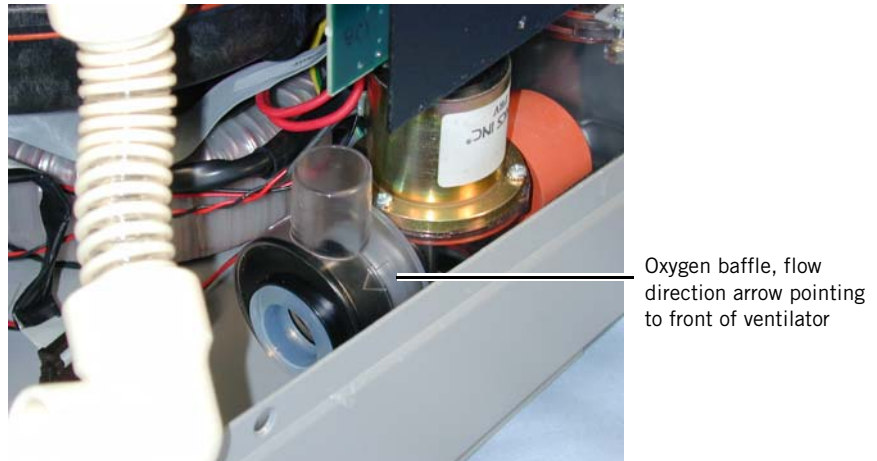

Figure 8-8: Installing the Oxygen Baffle onto the ILFR
6. Install the oxygen baffle onto the ILFR as far as possible, so that the oxygen port points directly up with the flow direction arrow pointing to the front of the ventilator (Figure 8-8).